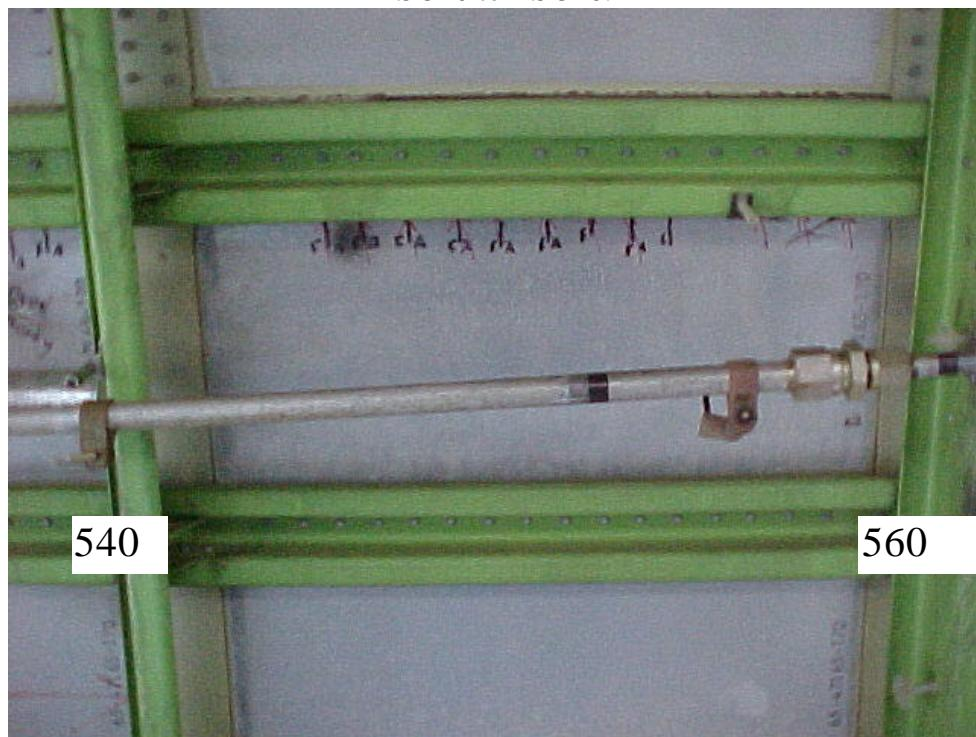

Figure C-6. Photograph of indication locations found during DVI and MFEC inspections. Stringer 4R, BS 540 to BS 560.
- FIGURE C-6 Photograph of indication locations found during DVI and MFEC inspections. Stringer 4R, BS 540 to BS 560..... C-5